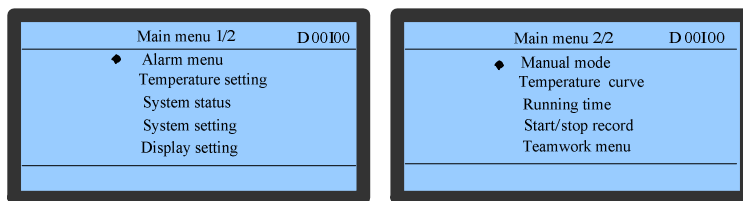

Figure 5-5 Main menu
1. The Main Menu includes 10 sub-menus and is displayed on two screens, as shown in Figure 5-5.